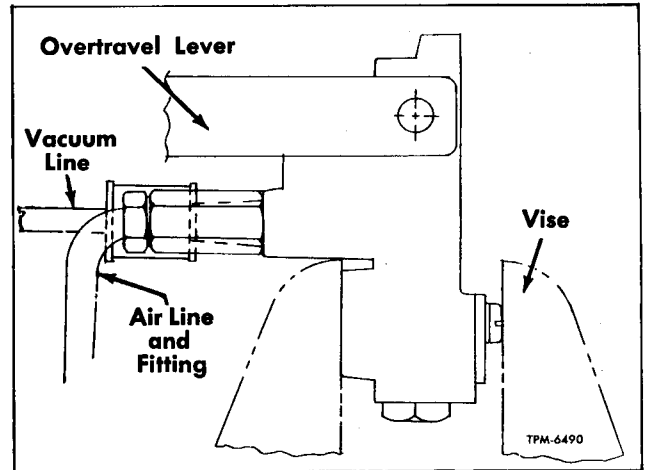

Figure 31—Valve Positioned for Time Delay Check
4. Place valve assembly vertically in holding vise (fig. 31).